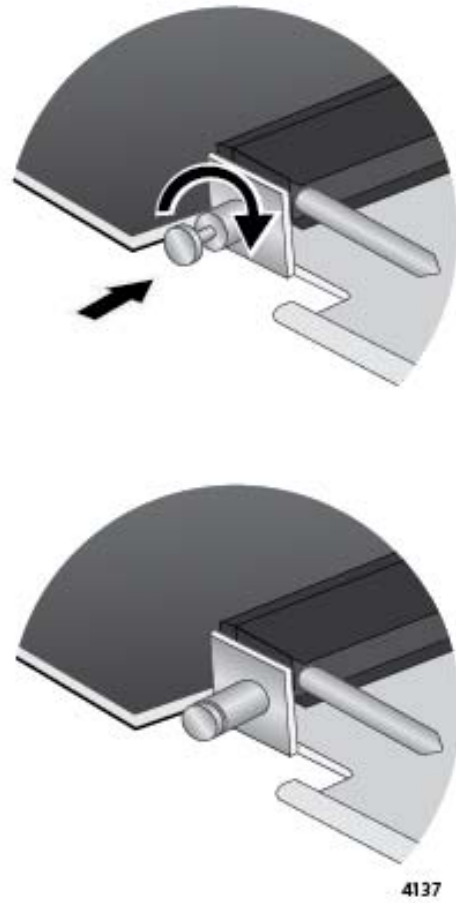

Figure 178. Releasing the Retaining Pin
11. Turn the retaining pin on the side of the card a quarter turn to release it. Refer to Figure 178 on page 277.